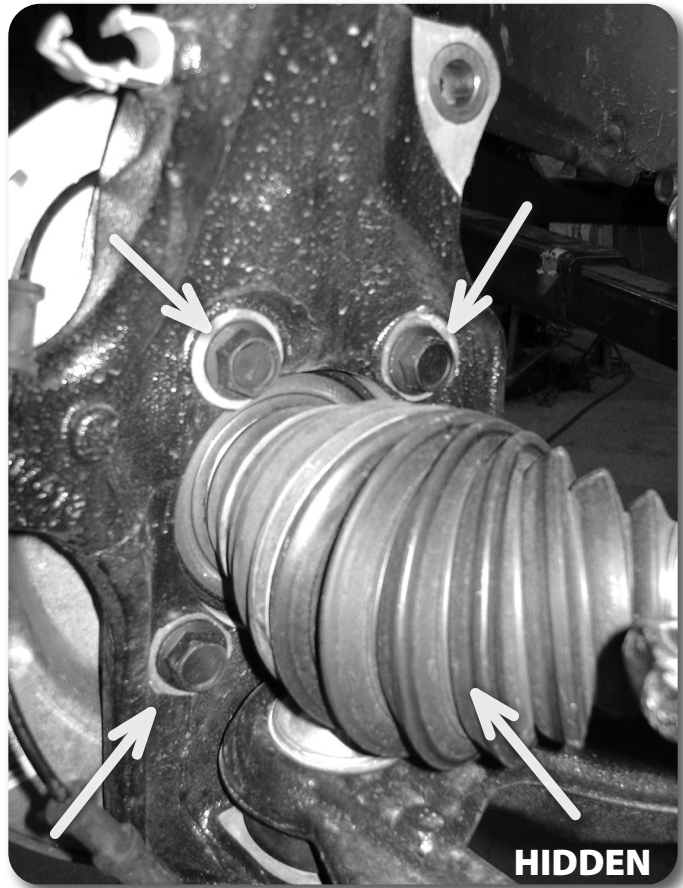

Figure 10
19. Locate and remove the four hub bearing assembly bolts **Figure 10**. The bolts are accessed from the back side of the steering knuckle. Remove the hub bearing assembly and dust shield from the steering knuckle.